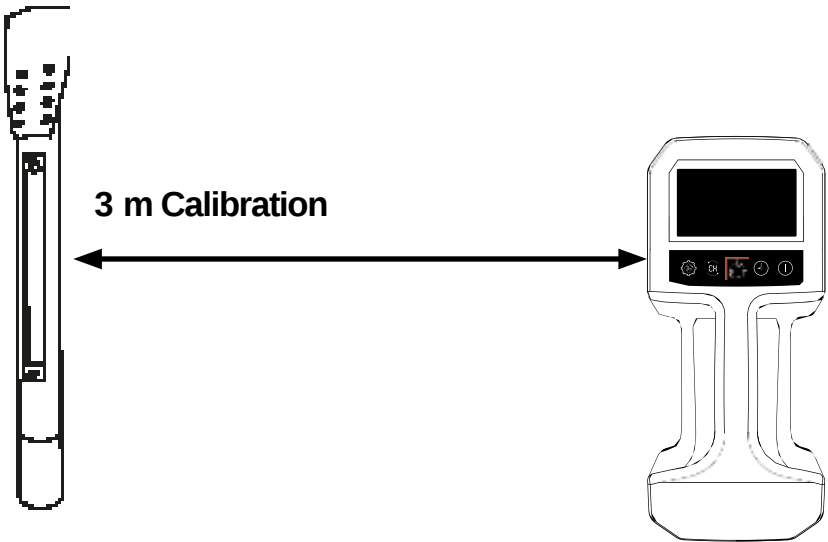

Fig.12. The location of the Receiver relative to the drilling head
7. Position the drill head at a distance of 3 meters from the side surface of the Receiver, as shown in Figure 12. 8. Press a combination of buttons to start the calibration process.   9. Holding the button  press the button  until the flashing value of 3.00 meters appears, then release the buttons. CALIBRATION IS COMPLETED when the value 3.00 stops flashing.